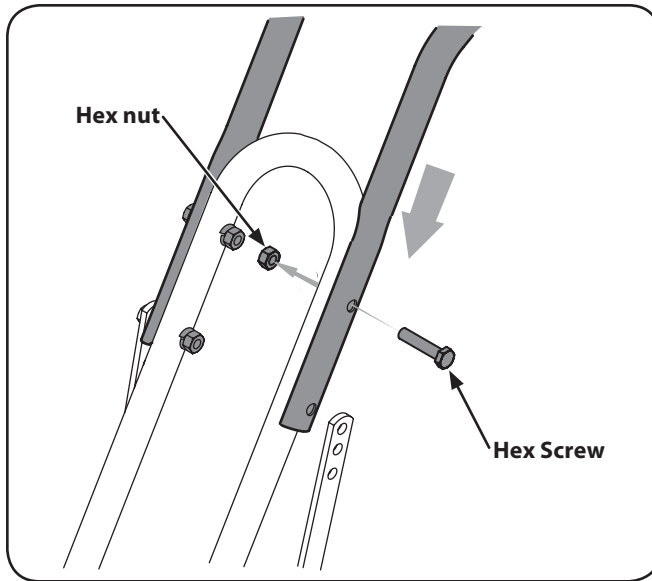

Figure 3-2
- Using two $\frac{5}{16}$ "-18 x 1- $\frac{3}{4}$ " screws and $\frac{5}{16}$ "-18 hex nuts, loosely attach the handlebar support using the upper holes. Tighten the two screws securely. See Fig. 3-2.
- There are three height adjustment holes in the two handlebar support brackets. Use a setting that will position the handlebars at approximately waist level when the tines are 3-4" into the soil. Loosely attach the support brackets to the outside of the handlebar assembly using two $\frac{5}{16}$ "-18 x 1- $\frac{3}{4}$ " screws and $\frac{5}{16}$ "-18 hex nuts. Refer to Fig. 3-2.